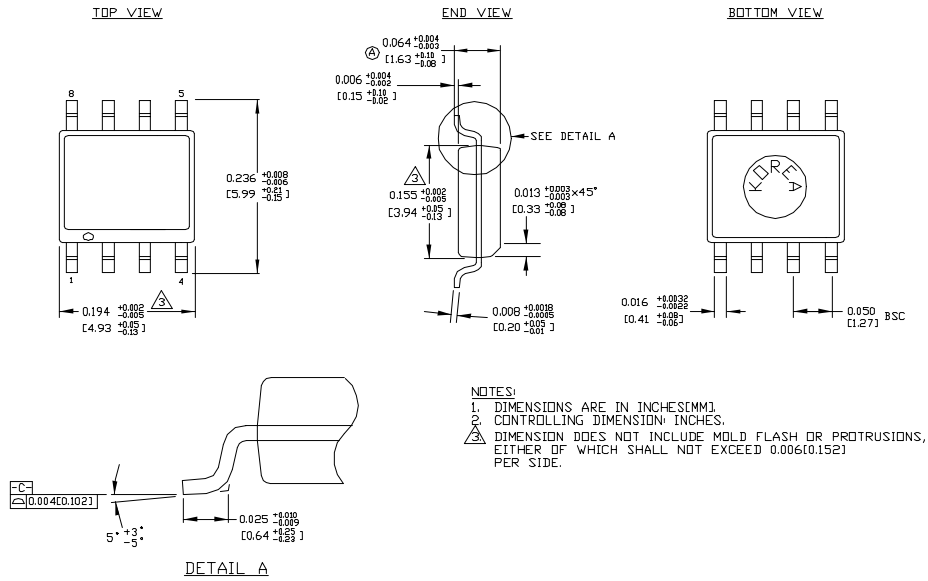

**Figure 6. Guard Traces/Kelvin Ground Returns**
2. Since any conductance from the various voltages on the PC Board and the T1 line can induce serious errors, it is good practice to guard the remote diode's emitter trace with a pair of ground traces. These ground traces should be returned to the MIC284's own ground pin. They should not be grounded at any other part of their run. However, it is highly desirable to use these guard traces to carry the diode's own ground return back to the ground pin of the MIC284, thereby providing a Kelvin connection for the base of the diode. See Figure 6.
3. When using the MIC284 to sense the temperature of a processor or other device which has an integral thermal diode, e.g., Intel's Pentium III, connect the emitter and base of the remote sensor to the MIC284 using the guard traces and Kelvin return shown in Figure 6. The collector of the remote diode is typically inaccessible to the user on these devices. To allow for this, the MIC284 has superb rejection of noise appearing from collector to GND, as long as the base to ground connection is relatively quiet.